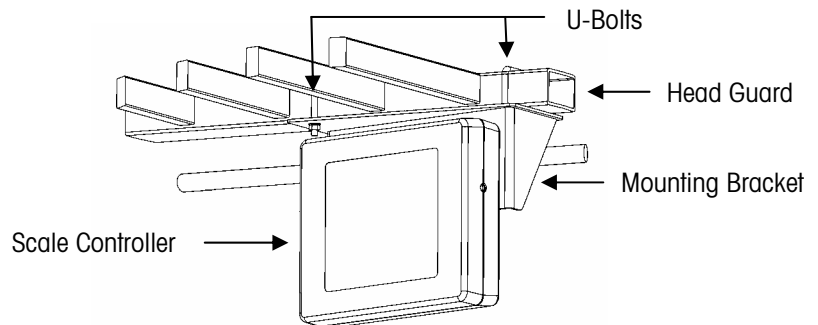

Figure 2-1: Scale Controller and Mounting Bracket
2. Bolt the controller to the mounting bracket, using four hexagonal head screws and washers (see Figure 2-1).